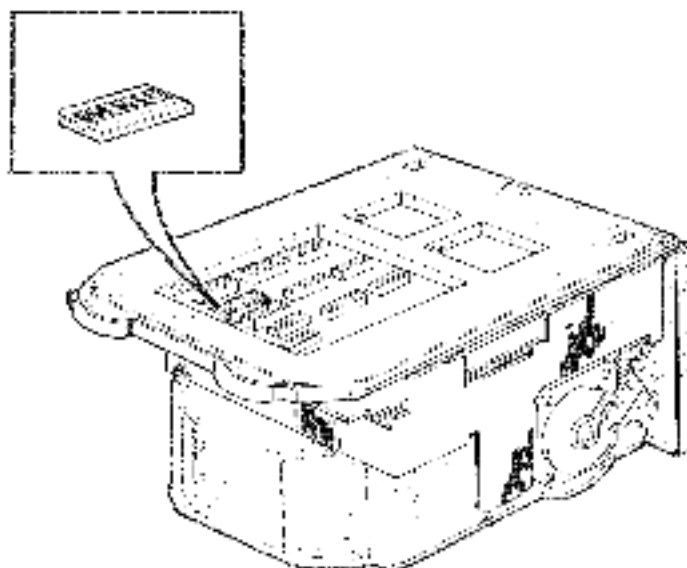

Figure 5-3 RD53 Disk Drive and Shunt Jumper
The Control Status Register (CSR) address of the first M7740 adapter module is fixed. You can change it using the Dual In-line Package (DIP) switch, P44 (Figure 5-3). Table 5-1 lists the factory setting. The Interrupt sector is set under program control.
**5.3.1.1 RD51** – Table 5-2 lists the read/write board jumper setting for the RD51 DIP shunt jumper (Figure 5-3).
Figure 5-3 shows the jumper and LED locations for the RQDX1 and RQDX2 controllers. The RQDX3 controller module is not shown.